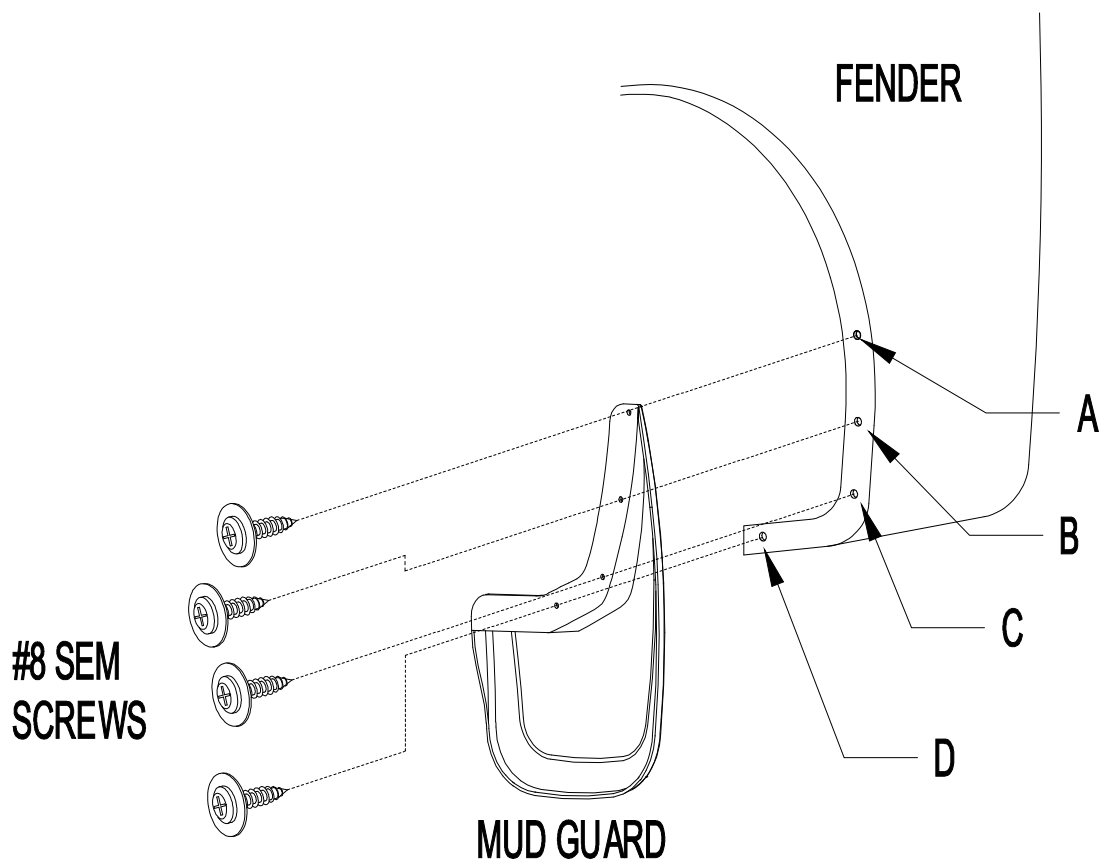

Figure 1
3. Install mud guard to rear fender with a #10 SEM screw at location B (Figure 1). Check fit and parallel and adjust accordingly before tightening.